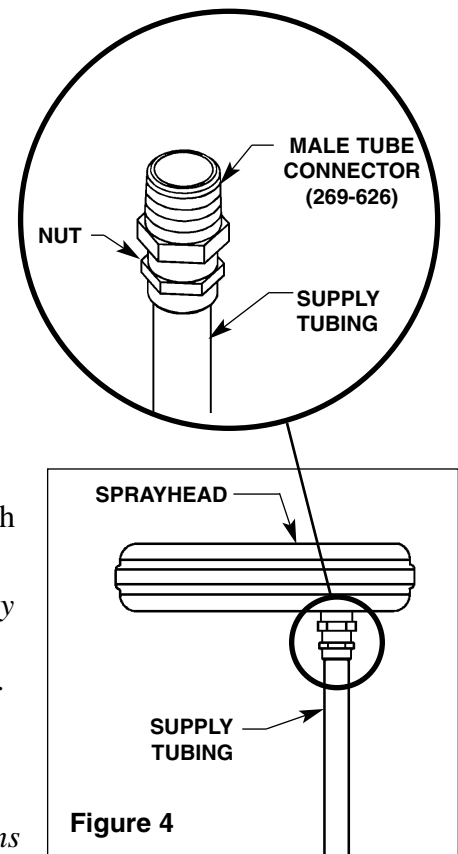

Figure 4
NOTE: Refer to Figure 4 for tube installation.
3. Connect 1/2" supply tubing to sprayhead as shown in Figure 4. Follow the procedures below when installing 1/2" tubing into sprayhead to ensure that you achieve a leakproof seal.